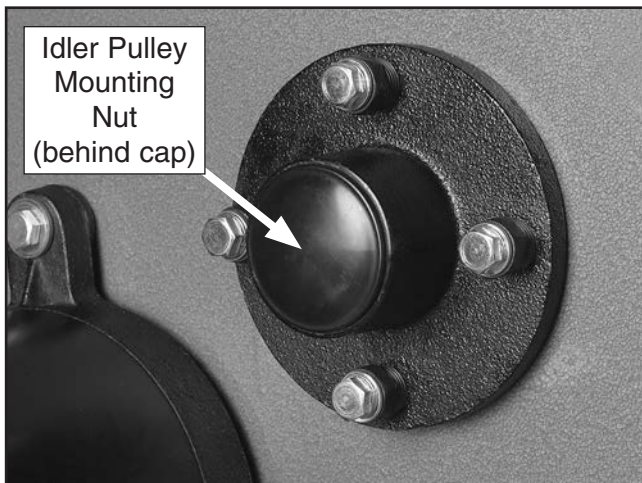

Figure 48. Location of idler pulley mounting nut.
3. Loosen the idler pulley mounting nut behind the cap shown in **Figure 48**.